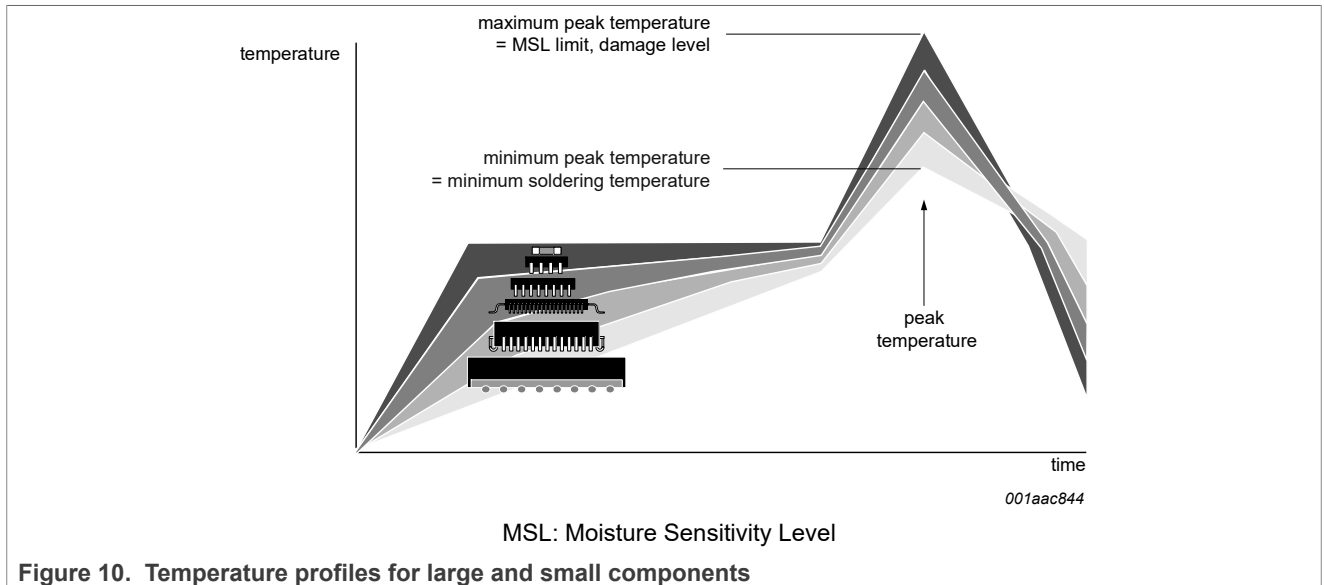

Figure 10. Temperature profiles for large and small components
- Lead-free versus SnPb soldering; note that a lead-free reflow process usually leads to higher minimum peak temperatures (see Figure 10) than a SnPb process, thus reducing the process window
Studies have shown that small packages reach higher temperatures during reflow soldering, see Figure 10.